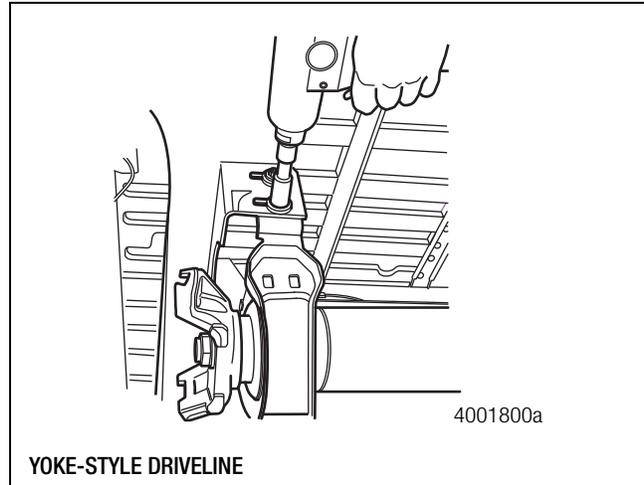
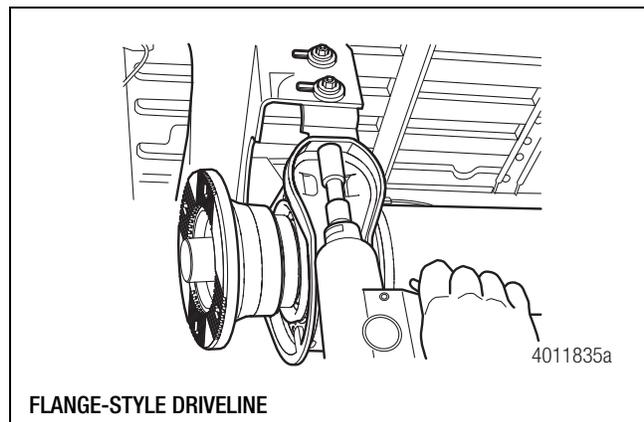

Figure 9.20
Figure 9.21
4. Install the center bearing bracket bolts. Tighten them to the vehicle manufacturer's specification. Figure 9.20 and Figure 9.21.